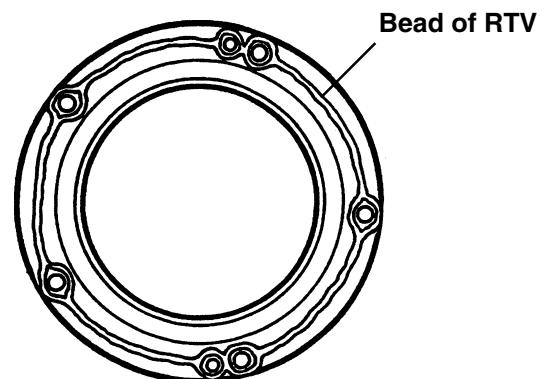

Figure 4
2. Apply a bead of silicone rubber (RTV) sealer around each bolt hole and the inside diameter of the bolt hole pattern to the seal. See Figure 4.